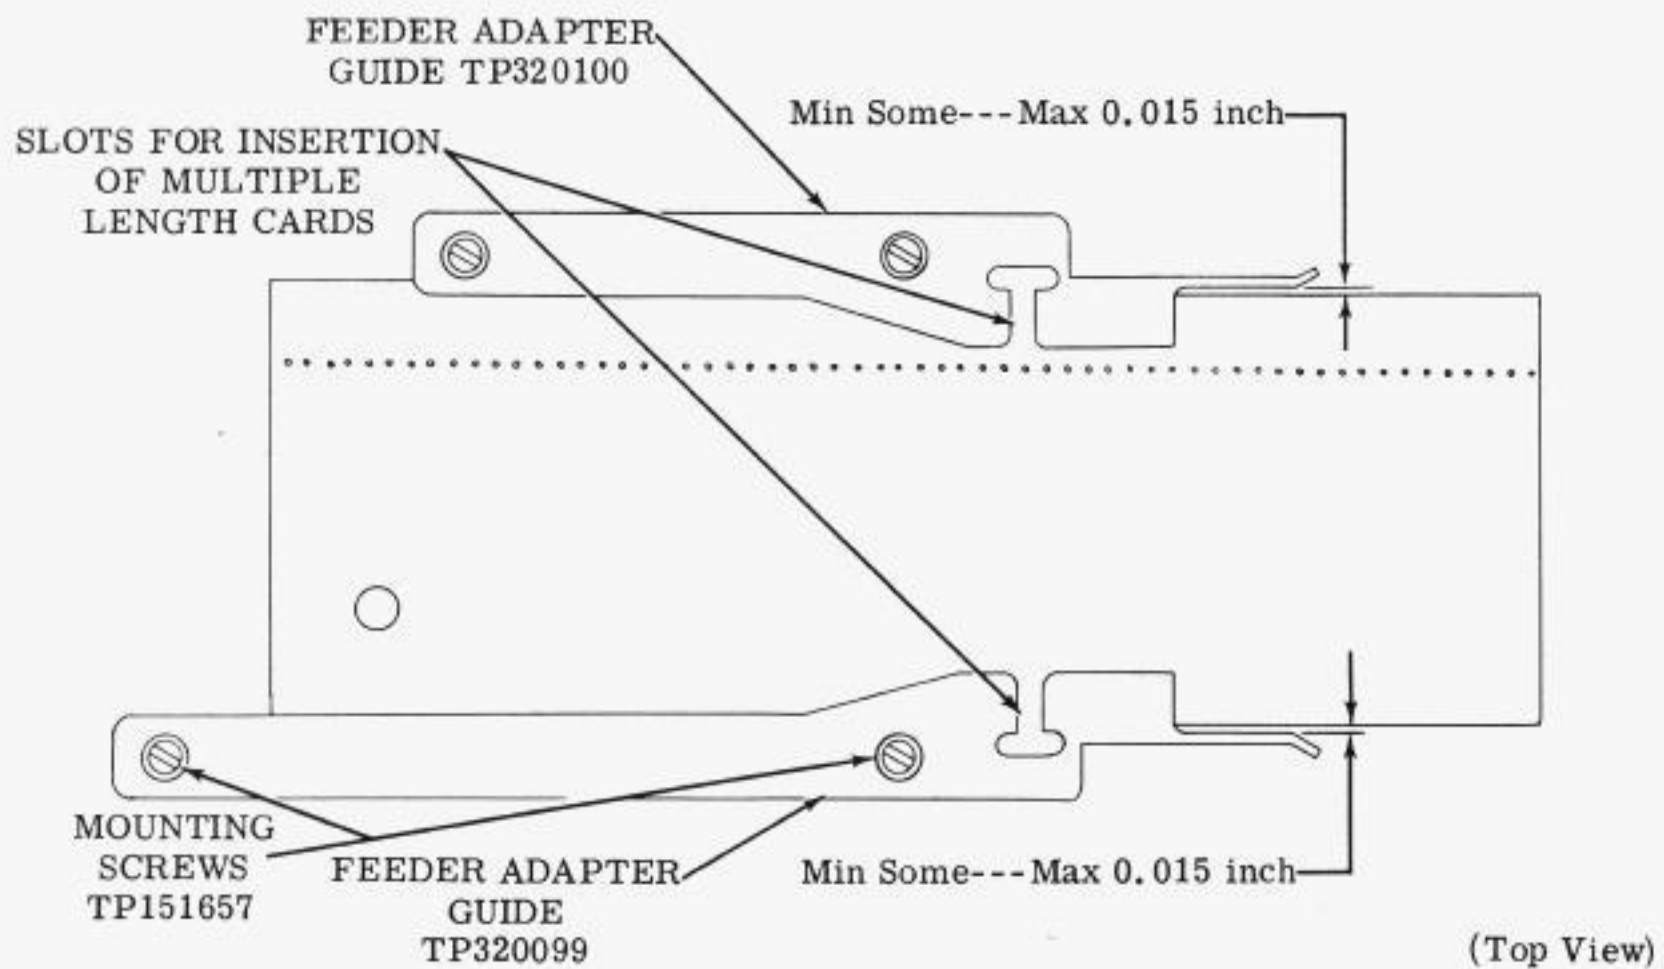

Figure 8 - Feeder Adapter Guides Mounted on Reader Unit
- (b) Insert an edge punched card into the adapter guides and position the guides by means of their mounting holes. There should be some to 0.015 inch clearance between the card edges and the adapter guides. Tighten the four screws TP151657 (Figure 8).
3.08 Multiple length cards may be fed into the card reader while it is attached to the feeder unit. Slots are provided in the feeder adapter guides TP320099 and TP320100 for this purpose (Figure 8).